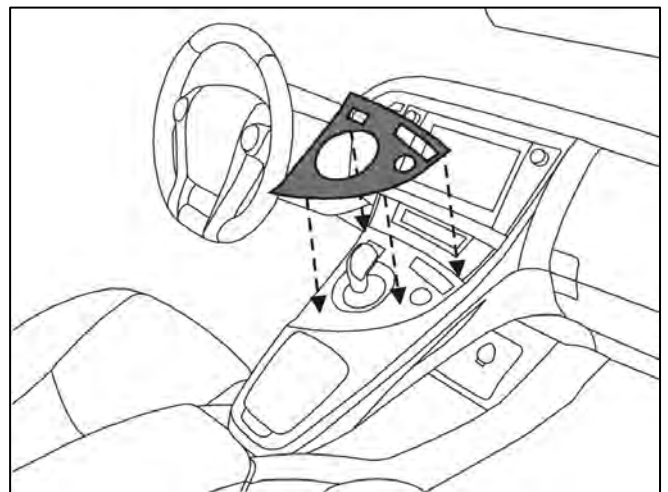

Fig. 3-2
-  (1) Align part uniformly to edge of factory component. (Fig. 3-2)
- (2) Gently touch part into position.
- (3) Edge of appliqué should be flush to edge of factory component, +/- 2.0mm.
-  (4) Once positioned, press part firmly into place by applying finger pressure. Pressure is required for adequate bond to factory component.